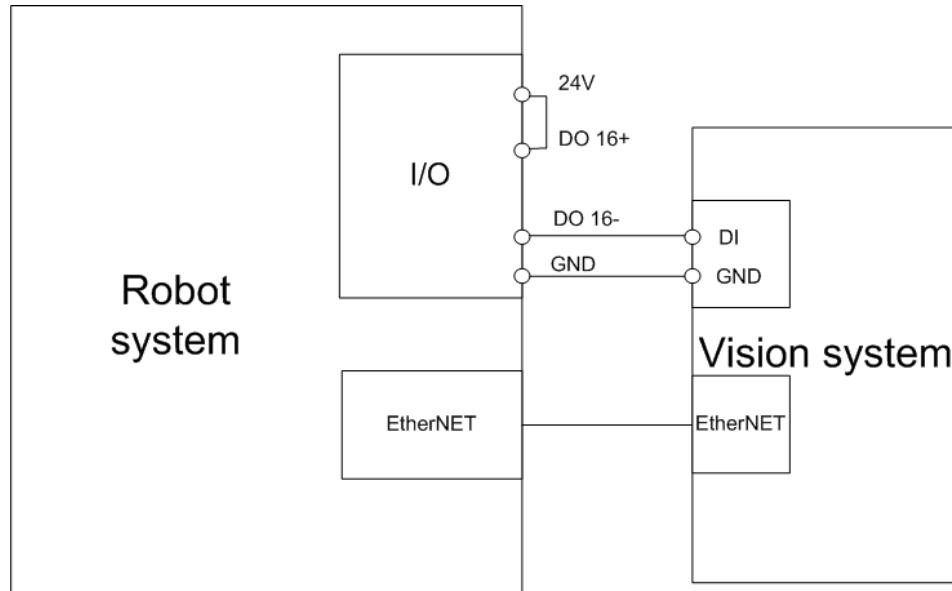

Figure 5.4 Vision system connection (1)
- If the robot system version is earlier than **V3.0.0.20190219121343**, the **DO 16** is triggered to take photos for detecting, as shown in Figure 5.4. You can check the robot system version on the **Settings > Version** page of the teach pendant.